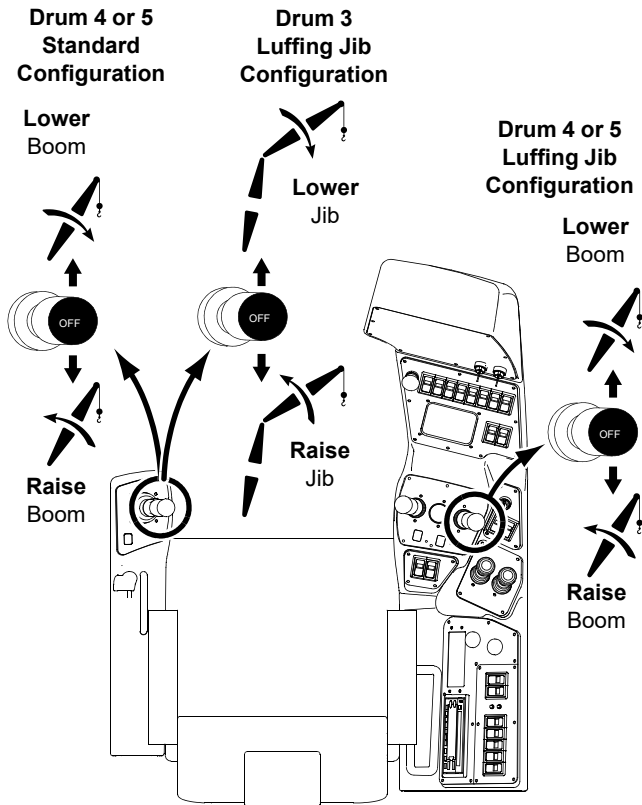

FIGURE 3-19
See Figure 3-19 for boom/mast hoist operation.
4. See Figure 3-19. Push boom/mast hoist handle FORWARD from off to LOWER boom or pull handle BACK from off to RAISE boom.
See Figure 3-19 for Luffing hoist operation.
When the crane is configured with a luffing jib (Drum 3), the multi-function handle on left console controls the luffing jib drum (See Figure 3-19).
4. See Figure 3-19. Push luffing hoist handle (Drum 3) on right console FORWARD from off to LOWER luffing jib or pull handle BACK from off to RAISE luffing jib.